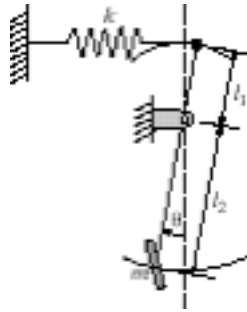

Figure P1.55
- 1.55** A control pedal of an aircraft can be modeled as the single-degree-of-freedom system of Figure P1.55. Consider the lever as a massless shaft and the pedal as a lumped mass at the end of the shaft. Use the energy method to determine the equation of motion in θ and calculate the natural frequency of the system. Assume the spring to be unstretched at $\theta = 0$.